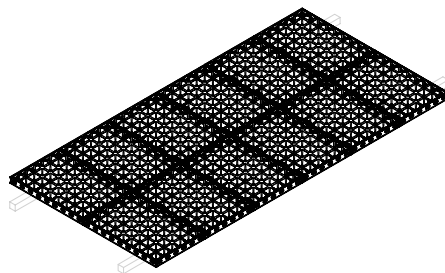

Fig. B1.14
4. Repeat step 3 until the required component length has been reached. (Fig. B1.14)